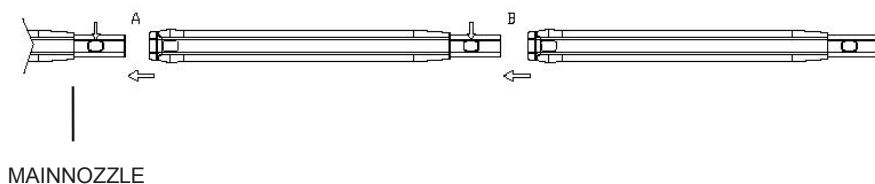

FIGURE 1
2. Press down on orange lock/release button. While continuing to hold button down, slide Extension Wand onto Main Nozzle (FIGURE 1-A). Push wand over button, and continue pushing until button snaps through hole on wand.
3. Slide second Extension Wand onto end of the one you just connected, this time lining up rectangular hole of second wand with orange lock/release button of first wand. Press and hold button, and firmly push second wand onto end of first wand until button snaps through hole (FIGURE 1-B). Both Extension Wands should now be connected to the Main Nozzle.